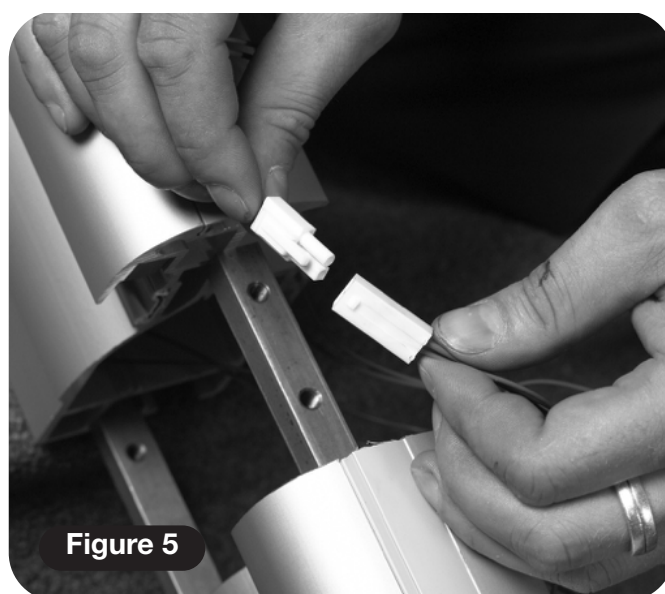

Figure 5
- Plug the connectors from the top and bottom sections of track together (**Figure 5**).